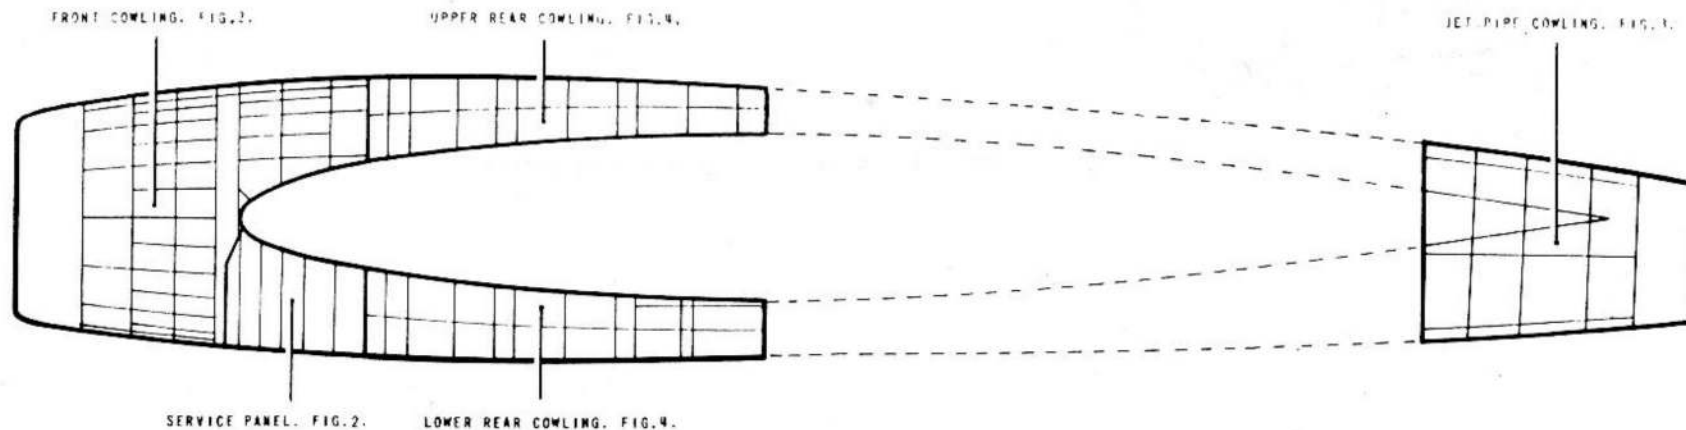

Fig.1 Key diagram
1. A method of pictorial indexing is employed in this chapter to locate and categorize damage and to illustrate repair schemes by step-to-step progression from the main component key diagram, through detailed structural illustrations and negligible damage charts, to repair schemes designed for particular structural items. Figure 1 - Key diagram, illustrates the cowling assembly and gives the figure numbers of the individual cowling structure illustrations. The structure illustrations simplify the identification of structural items and, in the key, give details of these items together with negligible damage definitions and repair figure numbers.